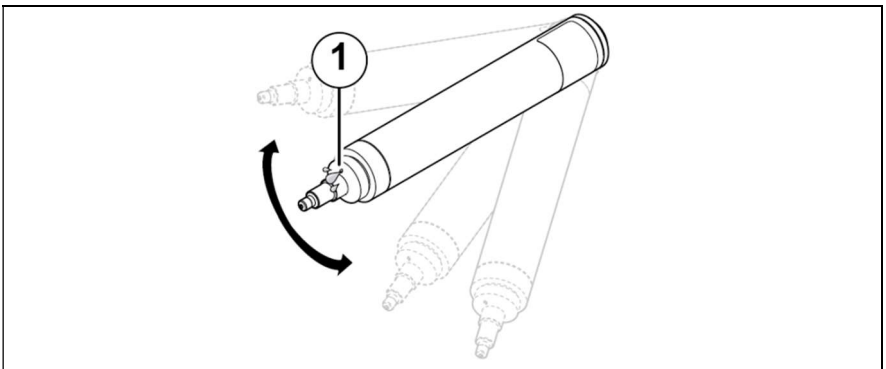

Fig. 10: *Shaking the sensor body dry*
- ▶ Shake the sensor body dry several times (see Fig. 10, p. 25).